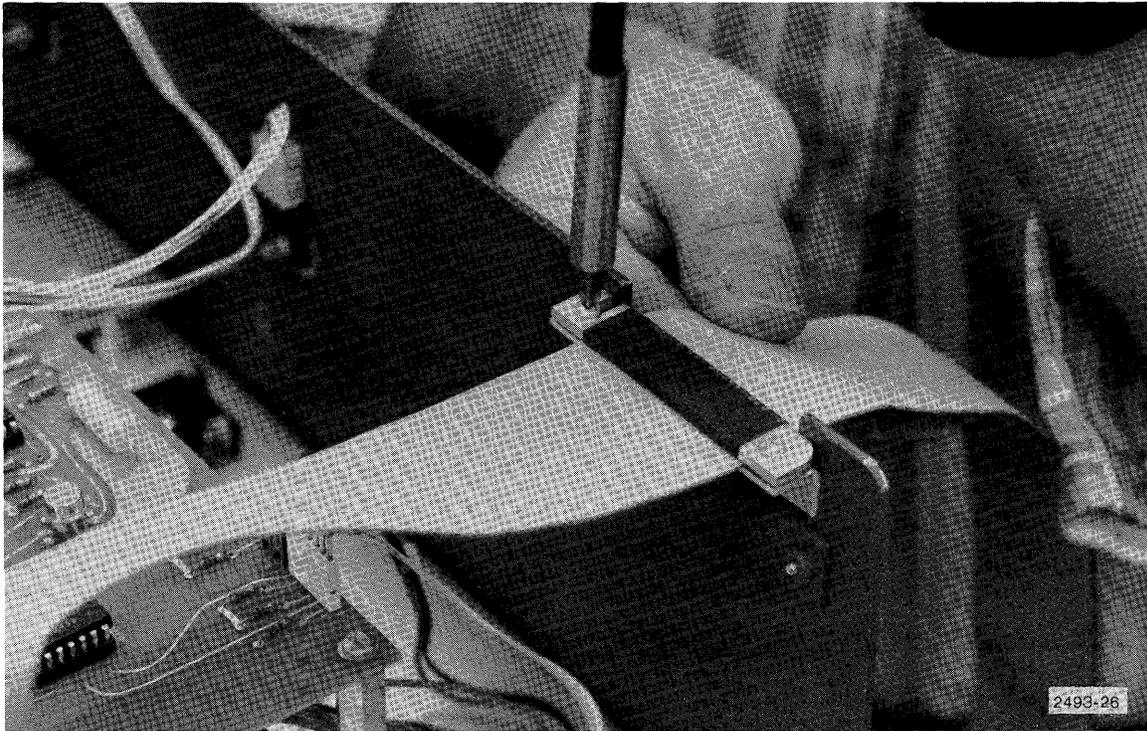

Figure 5-4. Securing ribbon cable at rear of main 4907 cabinet.
- h. Insert ribbon cable through bracket and clamp assembly with red stripe on the left as seen from the rear (Figure 5-4). Tighten clamp.